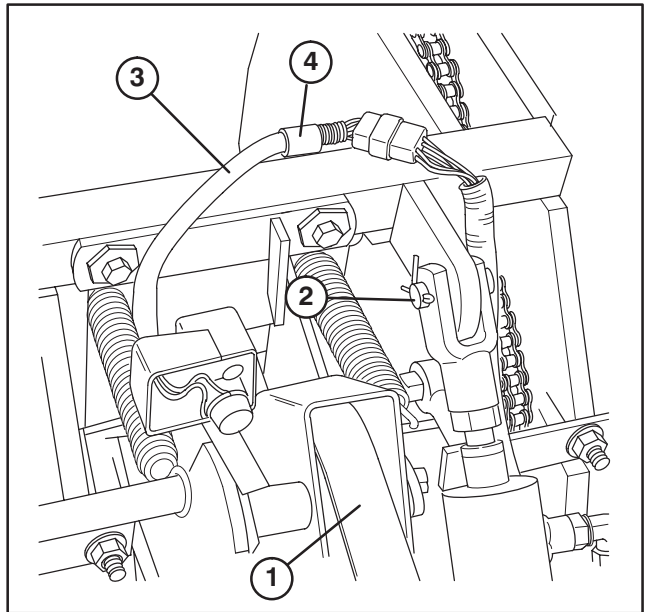

Figure 40
4. Remove the coring head drive belt from the engine pulley (Fig. 40).
7. Remove hair pin cotter from lift cylinder pin connected at coring head (Fig. 40), and remove pin.
8. Remove nut securing wire harness clamp to chassis (Fig. 40).